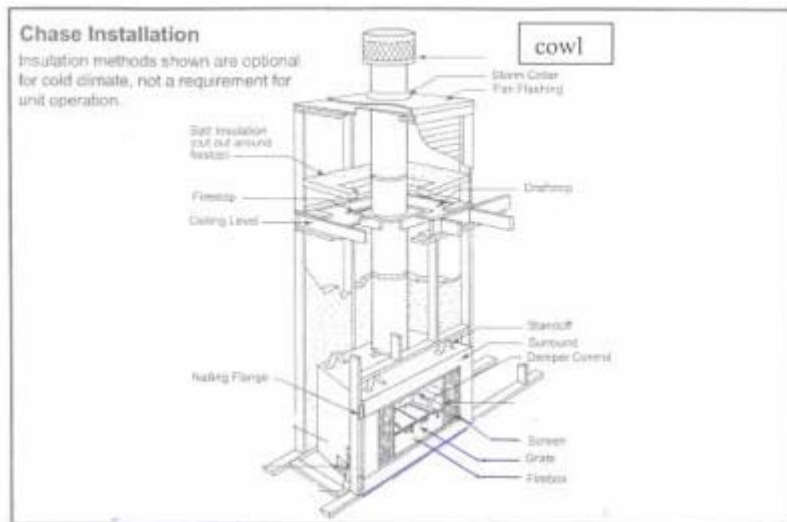

Fig 6 Fireplace and chase parts identification
**Note:** If this unit is installed outdoors and the flue is to be installed in a chase construction ( see Fig 6 ) or requires a roof penetration ( pergola or veranda ) you must use the Indoor flue kit part number: ODIDSSFLKT
A chase is a vertical boxlike structure which encloses the fireplace and flue. Chases are typically built on the outside of the house or free standing with fireplace opening cut into the outer wall of a room. (Fig 6) This structure with the exception of 10 mm externally ventilated air gap (total area 9,268 mm2) around the 285 mm flue casing at the ceiling penetration